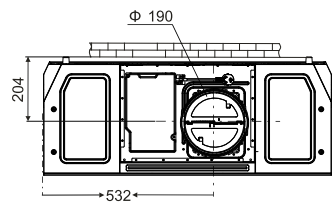

Fig 2
- Remove the eight M4 screws at the air outlet on the top of the range hood, take out the air outlet set assembly and the air outlet set gasket from the accessories, align the screw holes at the air outlet on the top of the range hood, and use the removed M4 screws to fix the air outlet set assembly and the air outlet set gasket. Fix the air outlet seat assembly as shown in Figure (4).
- Install the air duct cover (if needed): If the kitchen room has suspended ceiling and flexible duct through the ceiling (the opening size as Figure 2);